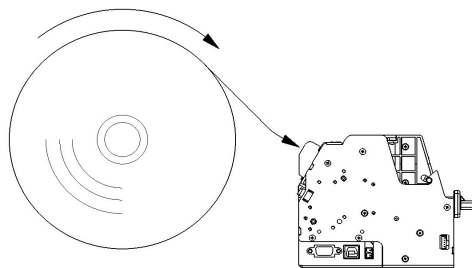

Figure 4.7-1 Paper loading
- 1) Turn on the power and place the paper head into the paper feeding path as shown in figure 4.7-1;
- 2) Refer to figure 4.7-1, push the paper into paper inlet slightly for a certain distance, and release the hand when the platen roller starts to rotate and hold the paper;